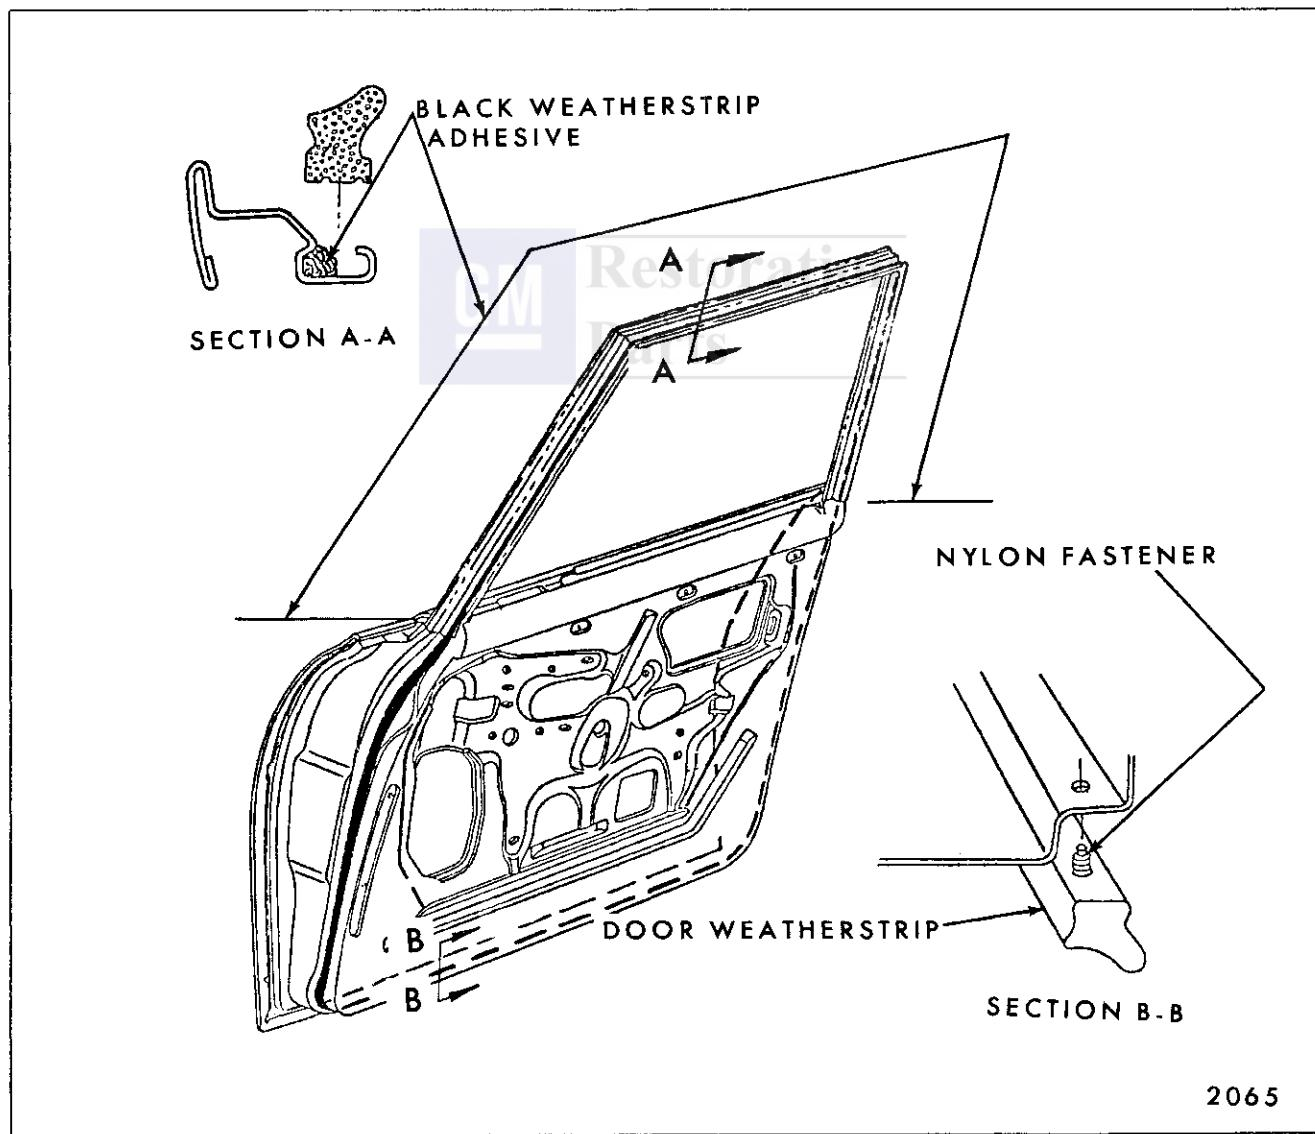
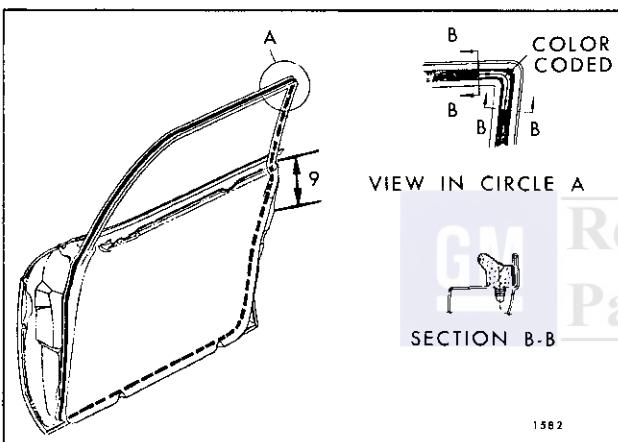

Fig. 6-2—Door Weatherstrip - "A & X" Closed Styles
Fig. 6-4—Front Door Weatherstrip — "B" Closed Styles
On "B" Body Sedan Styles, nylon fasteners are used around the entire perimeter of the door. On "A & X" Closed Styles, nylon fasteners are used below the belt line only. Weatherstrip adhesive retains the weatherstrip around the door upper frame above the beltline (Fig. 6-2).
sive is used for a distance of 9" at beltline (See Fig. 6-4). On "A & X" sedan styles, weatherstrip is retained by weatherstrip adhesive completely around door upper frame (See Fig. 6-2).
a. On front doors, locate weatherstrip from rear upper corner which is color-coded (Fig. 6-4).
6. On "A & X" Sedan Styles, apply a bead of black weatherstrip adhesive to gutter of door upper frame as shown in section "A-A", Figure 6-2; then, install weatherstrip.
a. For 5" around rear upper corner of front door upper frame (Circle "A", Figure 6-4) and 9" down door lock pillar starting at beltline.